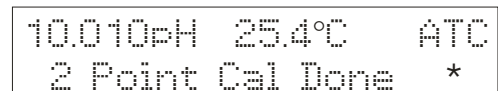

Figure 18
5. When pH reading has stabilized, press **ENTER**. The lower display flashes *2 Point Cal Done \** (3 if you have calibrated 3 points, 4 if 4 points, etc.). See **Figure 18**. This calibration point is now stored in the meter. Repeat steps 3-5 for each point you wish to calibrate. When you are finished calibrating, press **EXIT**. The screen flashes *Sys. Updating... Please wait....* The meter then returns to the pH measurement mode. You may now start taking pH readings.